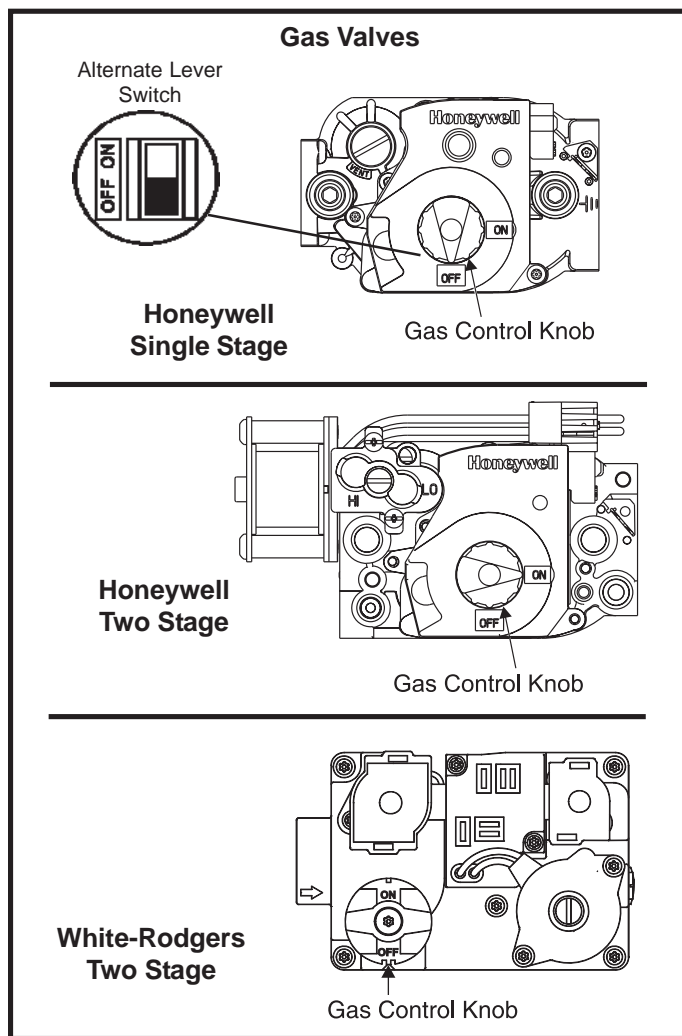

Figure 1
6. Move the gas control knob or switch to "OFF" (see Figure 1).
4. Move the gas control knob or switch to "OFF" (see Figure 1). Do not force.